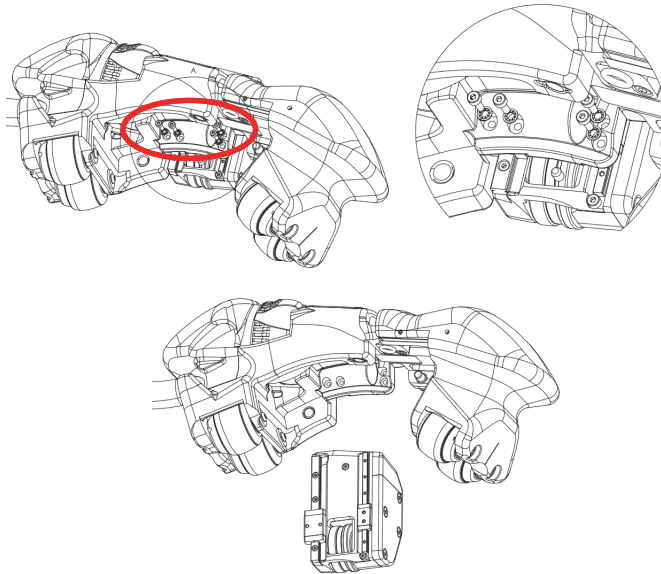

Figure 5-2 Changing the encoder
1. Use a 1.5 mm Allen key to remove the four screws on the encoder (see Figure 5-2 on page 50).